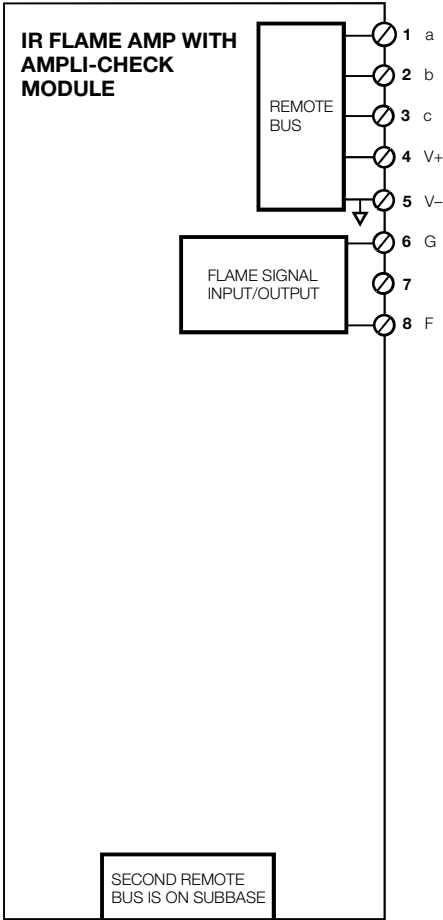

Fig. 4. R8001F1041 SLATE IR Ampli-Check Flame Amplifier wiring.
- 1. Refer to Fig. 4 for proper flame detector wiring.
- (1) Enclose scanner wiring without armor cable in metal cable or conduit.
- (2) Follow flame detector Instructions.
6. Check wiring, see Fig. 4.